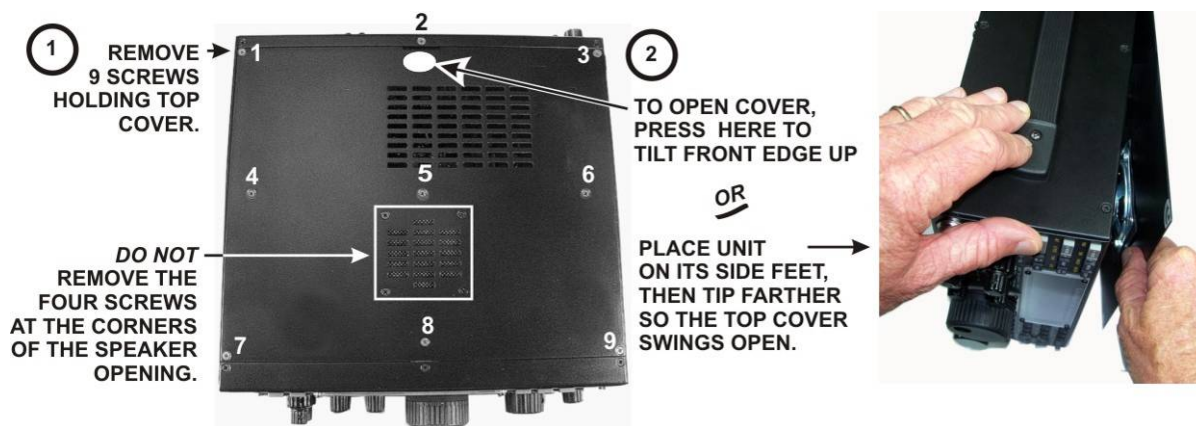

Figure 1. Removing K3S/K3 Top Cover.
- ☐ Remove the nine screws to free the top cover as shown in Figure 1. After the cover is open, lift it gently to reach the speaker wire connector. Unplug the speaker and set the top cover aside in a safe place.